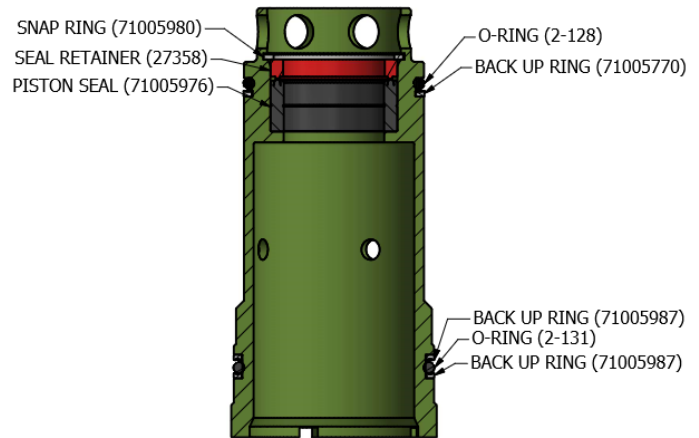

Figure 10 - Seat Retainer Assembly
11.10 Install the backup rings so that the contour faces the O-ring. Install the replacement backup rings and O-rings per Figure 10.